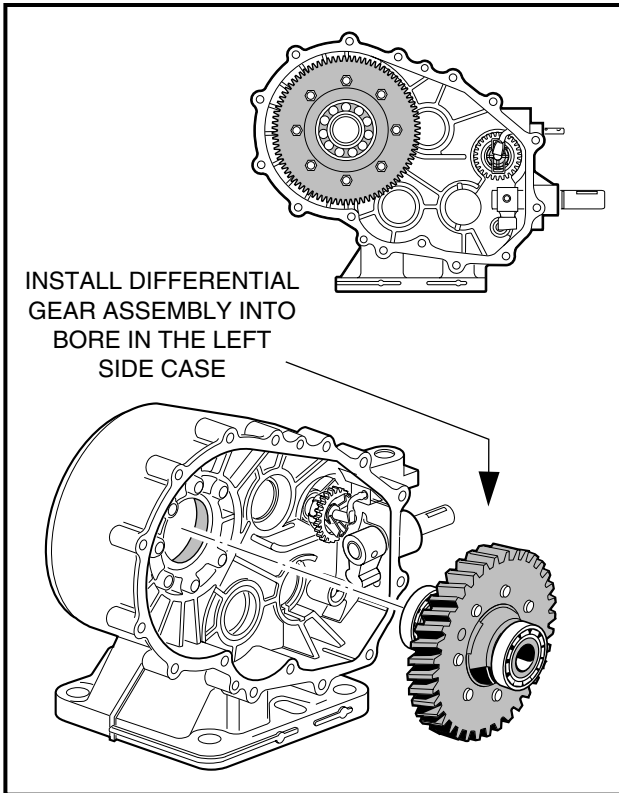

FIGURE 10-74
- 7.1. Stand the left side casing on the mounting plate, then install the differential gear case assembly as shown (**Figure 10-74, Page 64**). Do not seat the assembly in the bore, but insert it just far enough that it will not fall out.